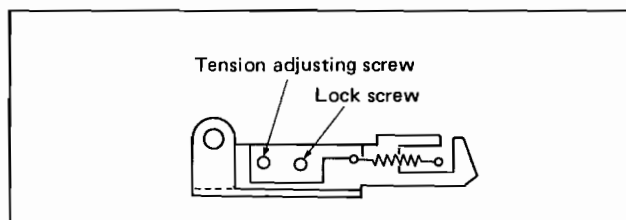

Fig. 5-2-2.
- (2) Adjustment of the Offset Tension of the Spring (200g) of the Tension Regulation Link
- Adjustment of the tension on the T side (T, H) Forward the tape by the shuttle slowly as in the play mode. Adjust the tension on the T side to $200\text{gr} \pm 5\text{gr}$ by using the tension adjustment screw. (Fig 5-2-2 and 5-2-3)
- Adjustment of the tension on the S side (S, H) Rewind the tape by the shuttle slowly as in the play mode. Adjust the tension on the S side to $200\text{gr} \pm 5\text{gr}$ by using the tension adjustment screw. After the adjustment is finished, fix with the lock screw. (Fig. 5-2-2 and 5-2-4)